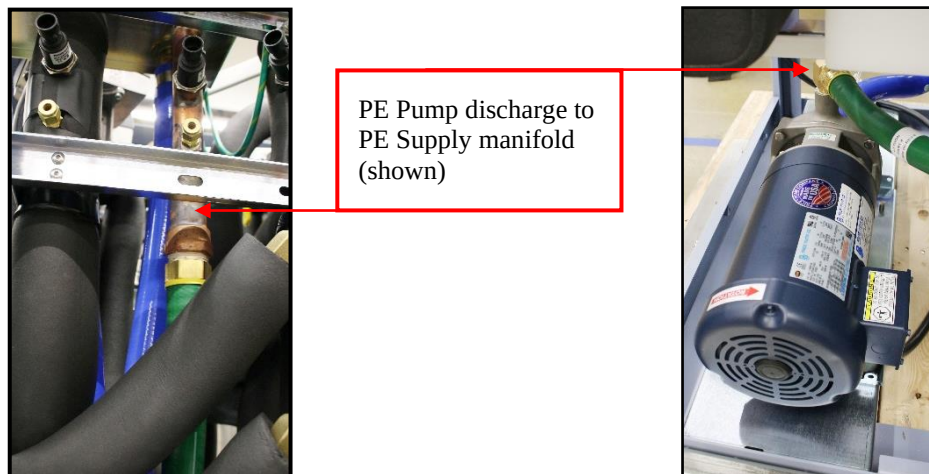

Figure 5 PE Pump Discharge to PE Supply manifold
- c. Using the 1 1/2" wrench, loosen flared fitting holding the GC (blue) (PE - Green) Supply hose to Supply manifold as shown in the Figure 5 below.